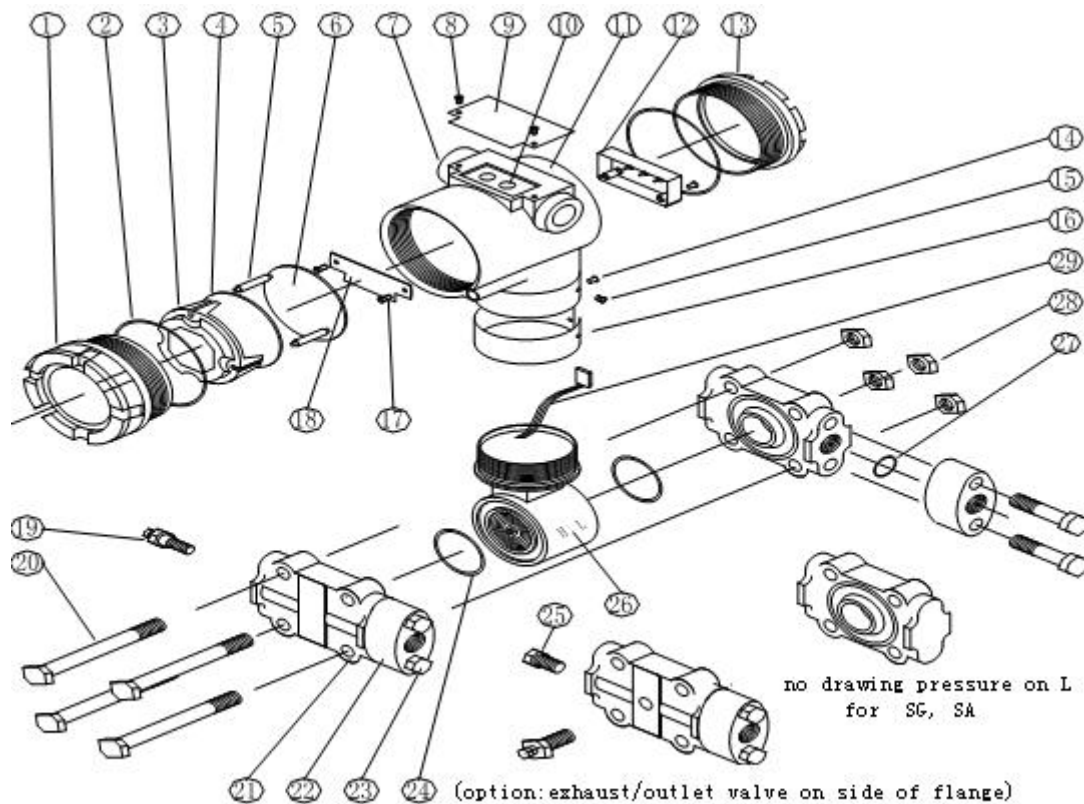

Figure 1-2 Smart Transmitter Structure
- Smart Transmitter Structure shown as Figure 1-2:
The logical structure of smart transmitter, which is the same, can be divided into five parts: sensor, instrument card, communication card, LCD card and port card, as Figure 1-2 and Figure 3-1 shows. The FF, PA Smart Transmitters are identical in terms of hardware due to the same physical layer specification, the communication card and port card of the FF, PA Smart Transmitters are different from those of Hart, but other parts are the same.